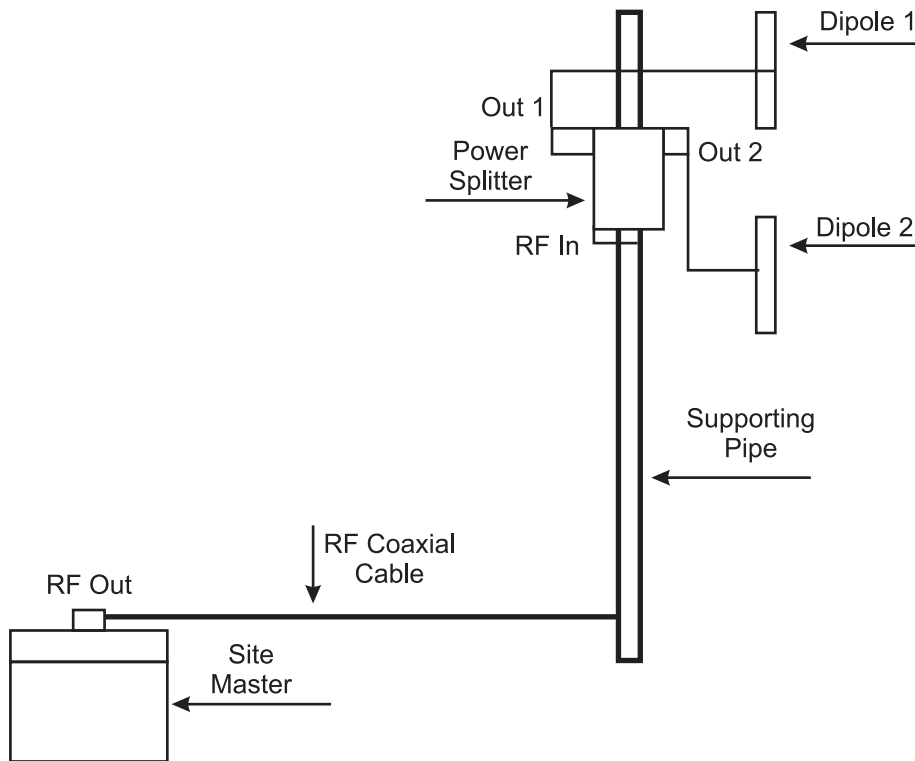

Figure 29.1: Test set up for VSWR measurement
2. Make the test set up as shown in Figure 29.1
Figure 29.1 shows the schematic of Test set up for VSWR measurement. As may be seen in the Figure 29.1, the 'RF OUT' of the Site-master is connected to the input of antenna system mounted on the top of the tower via main RF coaxial cable. (An antenna system consists of a power splitter and two dipoles. The two dipoles are connected to two outputs of power splitter via small RF coaxial cables called branch feeder cables).